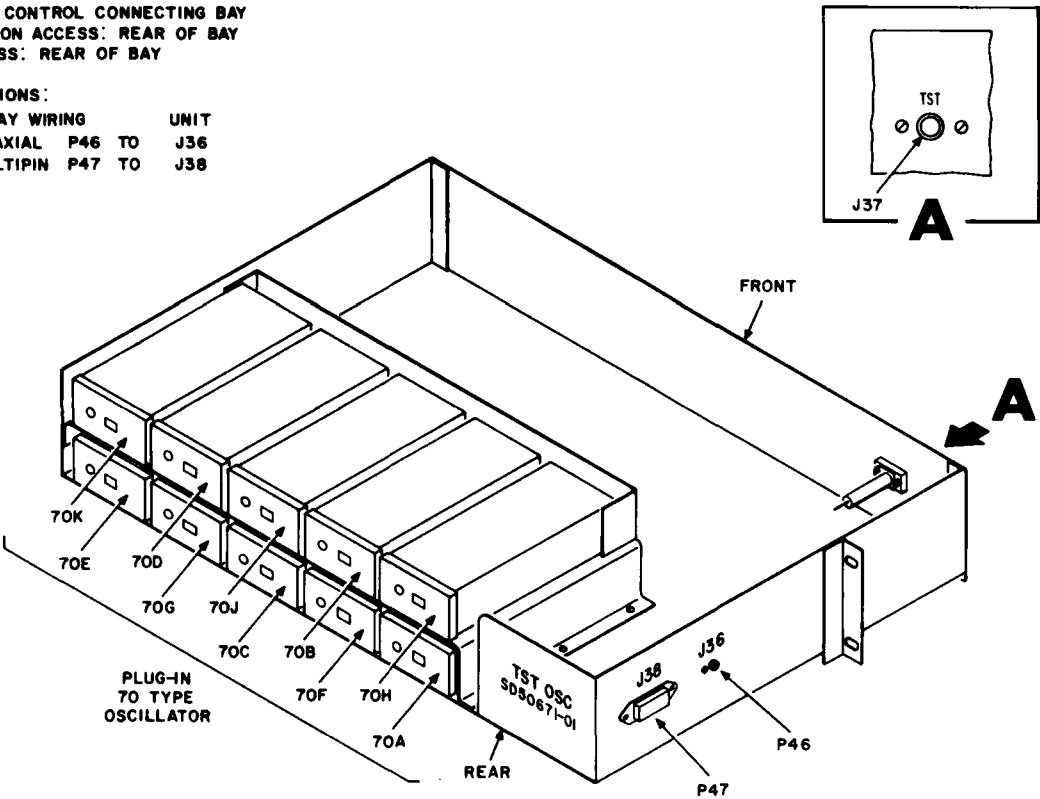

Fig. 18—B Equalizer Test Oscillator Panel J68877BB
B. B Oscillators Assembly J68877BB (Fig. 18)